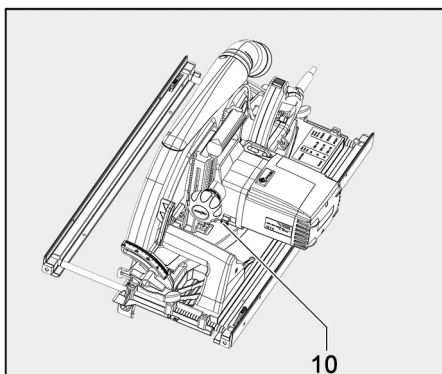

Fig. 4: Locking the saw blade
10. Position the new saw blade (14) on the rear flange (16).
- Ensure that the direction of rotation is correct when you install the saw blade. The saw teeth or the arrow on the saw blade (14) must point in the direction of the arrow (15) on the machine.
11. Fit clamping flange (13) and flange screw (12).
12. Press and hold the locking pin (see Fig. 4: Locking the saw blade).
13. Using the Allen key (B), turn the flange screw (12) **clockwise** to tighten it.